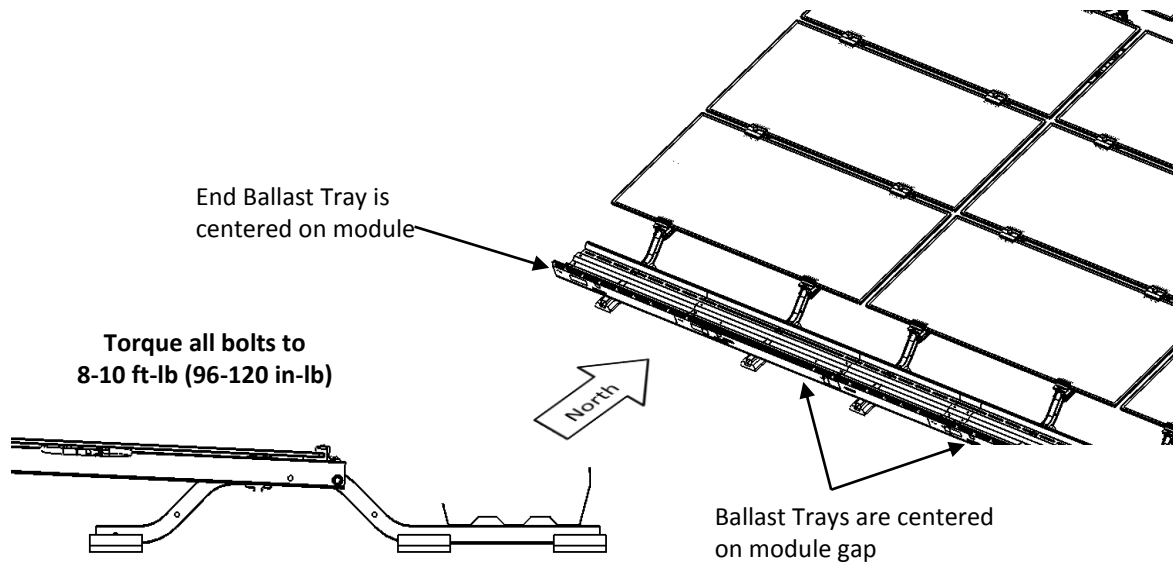

Figure 14 Installation of the South Tray
- 4.8. Install Ballast Trays to the pre-installed rivet nuts on the longer side of the South Supports by centering each Ballast Tray between two modules (Figure 14 Installation of the South Tray). The Ballast Tray may be shifted east or west to align with the closest slots. At the end of rows of modules the tray will span a single module. Thread a bolt onto each of the pre-installed Rivet Nuts and torque to 8-10 ft-lb (96-120 in-lb).